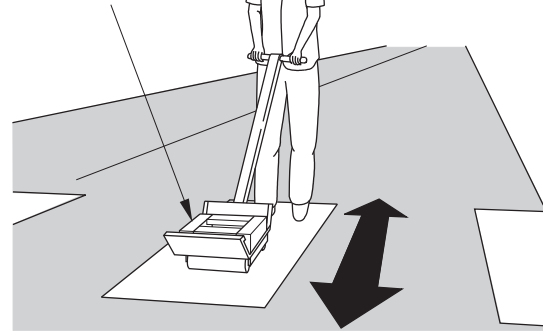

Figure 8.
Use a Roller Tamper Cart RTC-2 loaded with **100 pounds (45 kg)** (two standard 50-pound weights) to get initial tack of the tape to the asphalt. This tamping of the tape should always be done in the same direction as the marking was applied (lengthwise, not crosswise). **Start in the center of the marking**, then work toward the edges of the tape to remove trapped air. Make sure all the edges of the tape are thoroughly tamped. Do not twist or turn the tamper cart on the tape. One pass over each area is sufficient. (See Figure 8.)
**TAMPING IS MOST IMPORTANT!** When using the RTC-2 tamper cart (*See Figure 8, Page 7*):